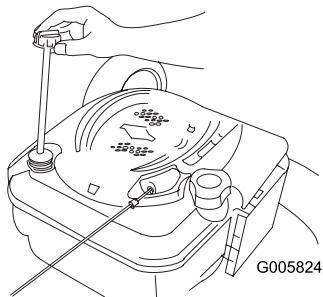

Figure 39
1. Remove the dipstick (Figure 39).
3. **Slowly** pour oil into the oil fill tube until the oil level reaches the Full line on the dipstick (Figure 39). **Do not overfill.** (Max. fill: 20 oz. (0.59 l), type: SAE 30W detergent oil with an API service classification of SF, SG, SH, SJ, SL, or higher.)